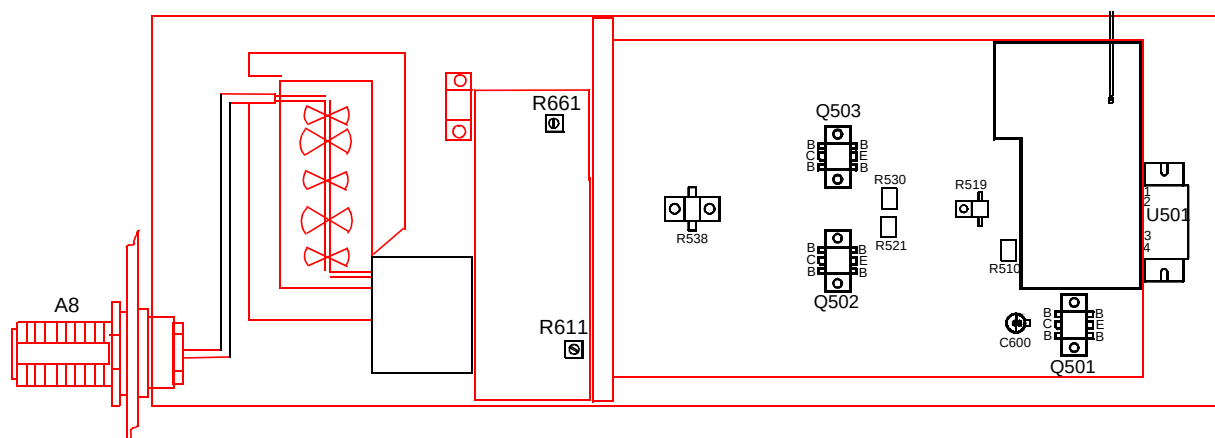

Figure 7-3 110W POWER AMPLIFIER ALIGNMENT POINTS
Refer to Figures 7-3 and 7-4 for component locations. Refer to Figure 7-8 for equipment needed and setup diagram. Select "PA" from the "TEST" menu in the Repeater Software.
1. Set R510, R521 and R530 on the PA board full **clockwise** before applying power to the PA (or PA deck and RFIB assembly), see Figure 7-3.
2. Set Forward Power Adjust R611 and Reflected Power Adjust R661 on the power detector board fully **counterclockwise** (see Figure 7-3).
7. Monitor the voltage on U501, pin 2 (power control voltage) and tune C600 for **minimum** voltage (see Figure 7-3).